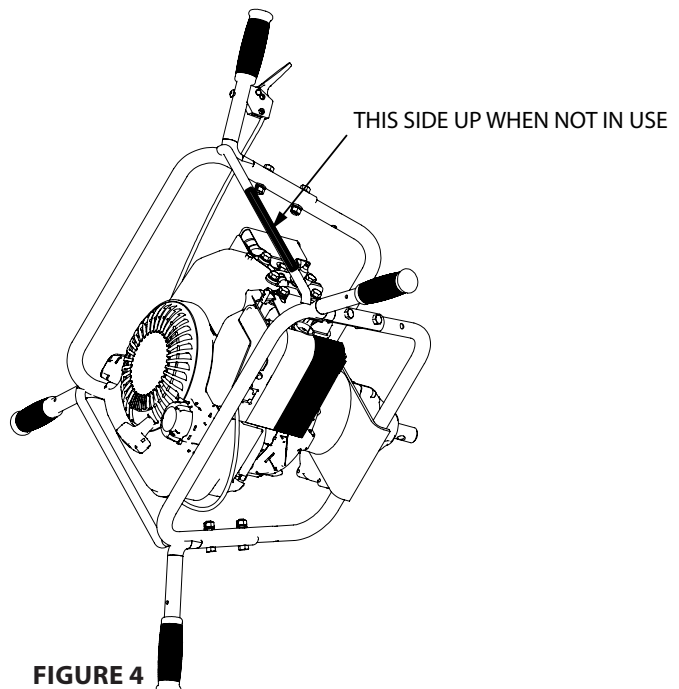

FIGURE 4
6. When transporting your auger, make sure you position the unit according to the decal. **SEE FIGURE 4.**